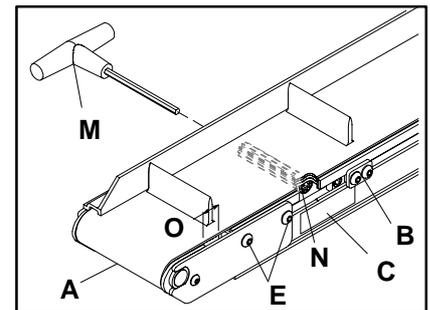
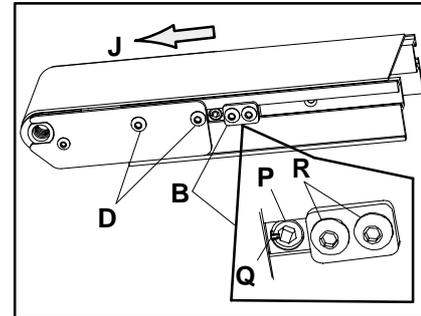

Figure 10
Figure 11
Locate the tension end (A of Figure 10) of the conveyor, identified with a label (C).
Position the belt tracking cam against the slide bar while making sure groove is correctly oriented (see Figure 11 on page 6). Proceed to the "Preliminary Belt Tracking Check" information, on page 6, before conveyor startup.
Check both ends of the conveyor for proper belt tracking. The belt should track centered between the tail plates on both ends of the conveyor. Conveyor belt tracking should always be adjusted on the discharge end of conveyor first, as indicated by the direction of belt travel arrow (J of Figure 11). Then, check the tracking on the opposite (infeed) end of the conveyor and readjust, if necessary.
Slide both belt tracking cam assemblies (B of Figure 11) as far as they can be toward the end of the conveyor.
The belt tracking cam (P of Figure 11) must be set to the low point at the point of contact as illustrated. The slot (Q), in the belt tracking cam, indicates the low point and should be pointing towards the end of the conveyor.
**Only loosen the two tail cover plate screws (D of Figure 11) on the side of the conveyor that the belt is tracking toward.**
With the conveyor running, use the 5 mm hex key wrench (M of Figure 10) to slowly rotate the belt tracking cam (P of Figure 11).